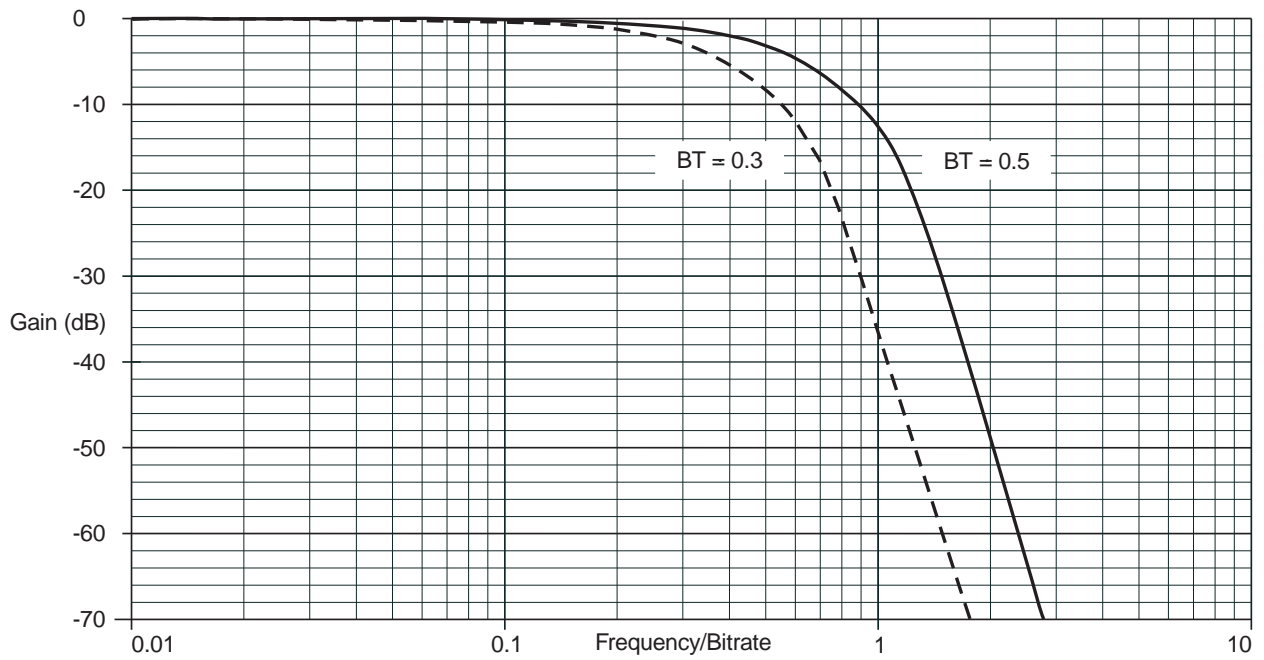

Figure 9: Tx Filter Response
The TX Filter has a lowpass frequency response, which is approximately gaussian in shape, as shown in Figure 9, to minimize amplitude and phase distortion of the binary signal while providing sufficient attenuation of the high frequency-components which would otherwise cause interference into adjacent radio channels. The actual filter bandwidth to be used in any particular application will be determined by the overall system requirements. The attenuation- vs. -frequency response of the transmit filtering provided by the MX589 has been designed to meet the specifications for most GMSK modem systems that are -3dB bandwidth switchable between 0.3 and 0.5 times the data bit-rate (BT).